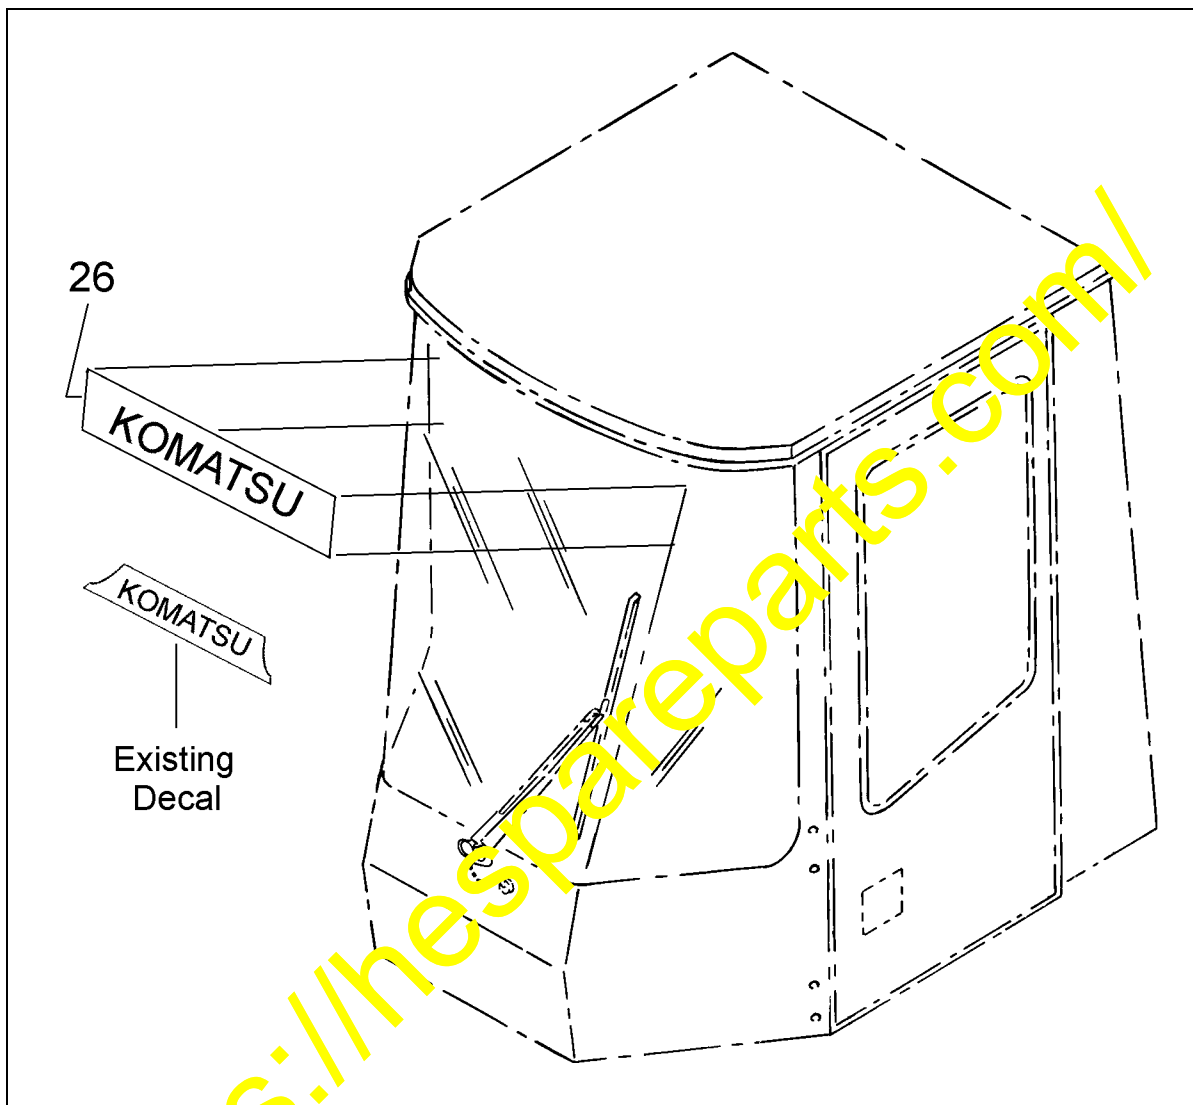

Figure 6
16. For "Avance Plus" models, replace the existing decal with the new decal (26). Figure 6 shows the proper location for the new decal.